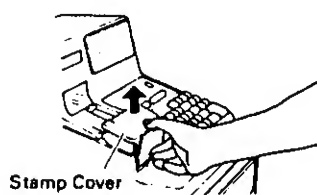

Fig. 13
2. Remove the stamp cover to gain access to the Ink Roller and Stamp Assembly. (Fig. 13)